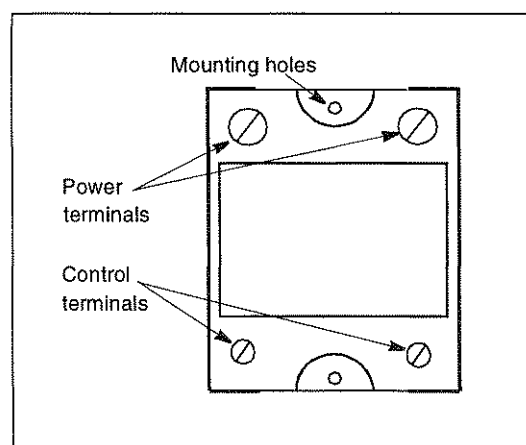

Figure 4. Solid State Relay
3. Locate the solid-state relay on the component tray (the relay is shown in Figure 4).